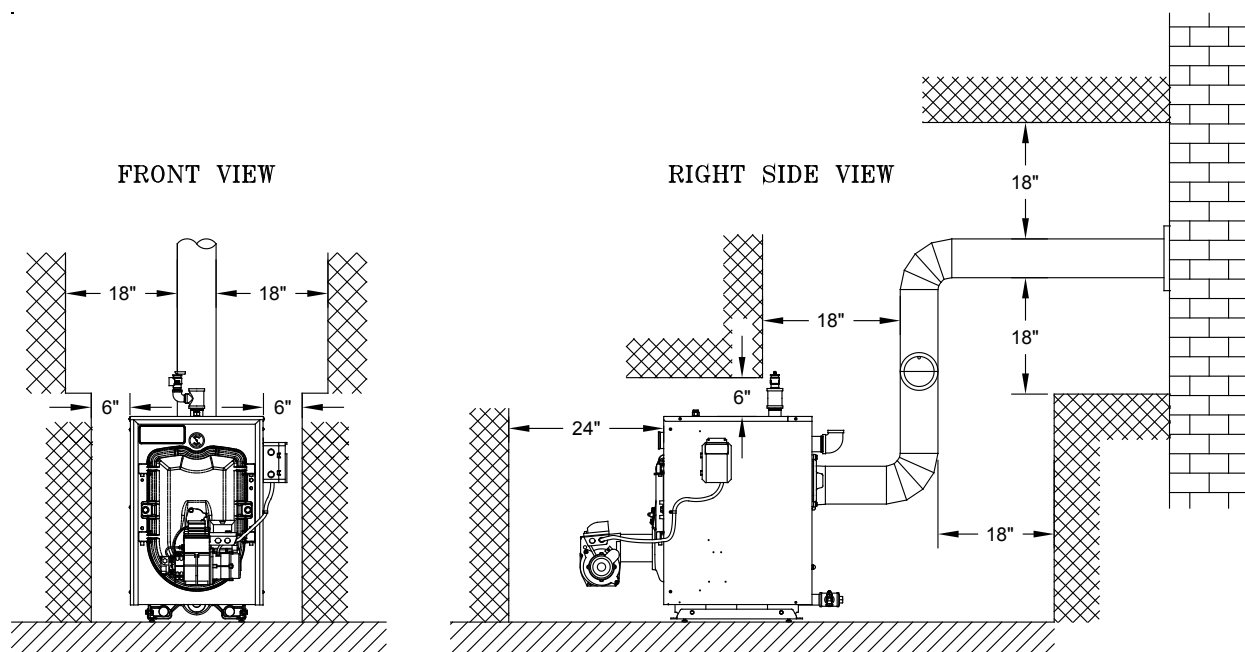

Figure 2A: Chimney Vent - Minimum Installation Clearances To Combustible Materials (Inches)
- 12" minimum for rear smokebox cleaning (NOTE: This dimension will also be controlled by horizontal to vertical to horizontal smokepipe arrangement - **Chimney Vent** (see Figures 2A and 13).
See Figures 2A and 2B.